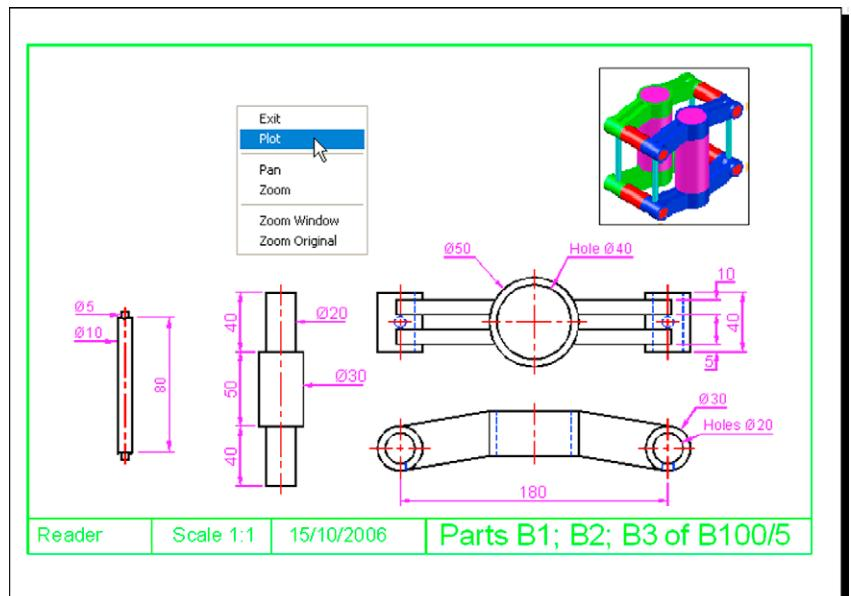

Fig. 19.11 Second example – Printing/Plotting
Second example – Printing/Plotting (Fig. 19.11)
4. If satisfied with the preview (Fig. 19.11), *right-click* and in the menu which appears *click* the name **Plot**. The drawing plots.